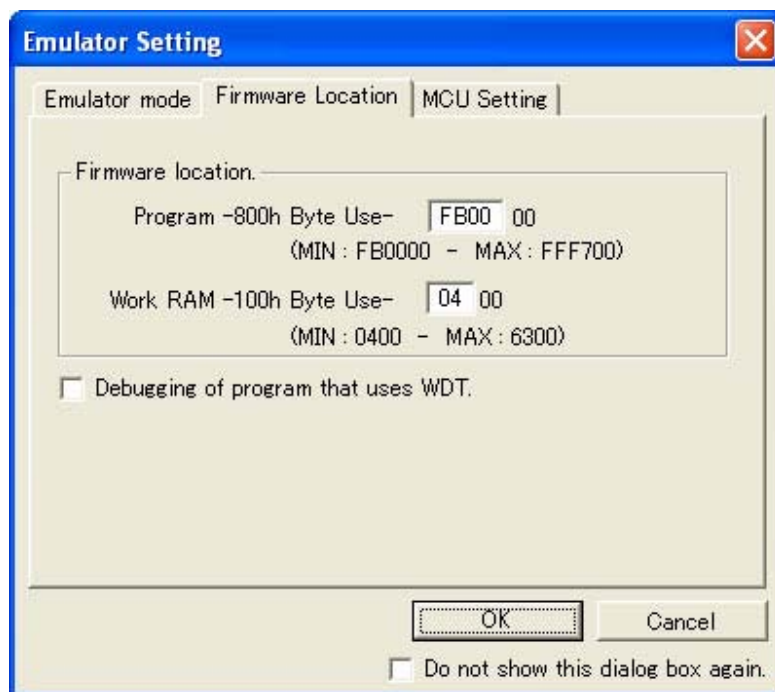

Figure 5.1 [Firmware Location] Tab of [Emulator Setting] Dialog Box
*1: When starting up the debugger, the [Emulator Setting] dialog box shown in Figure 5.1 is displayed. Specify an area which is not used in the user system.